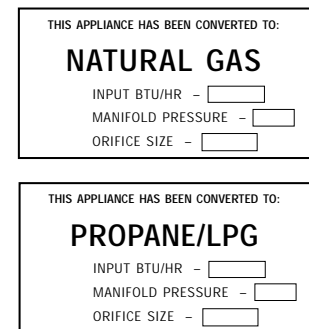

Figure 6
Step 7. Attach appropriate conversion kit label (Figure 6) to the rating plate on the appliance.